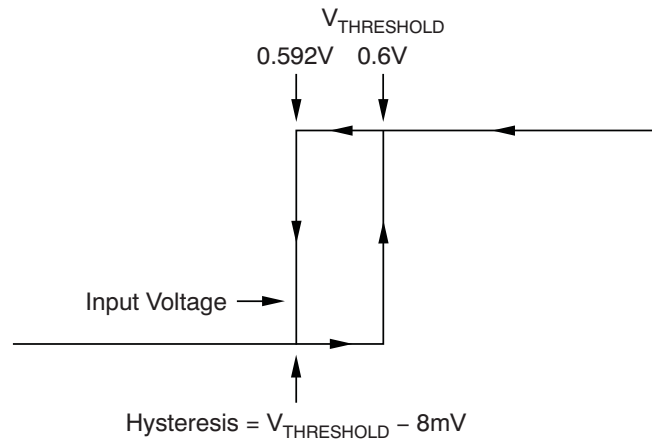

Figure 1. Typical Comparator Hysteresis
- (1) Hysteresis refers to the threshold (the threshold specification applies to a rising edge of a noninverting input) of a falling edge on the noninverting input of the comparator; refer to Figure 1.
- (2) Specified by design.
- (3) V_{ID} refers to the differential voltage at the comparator inputs.
- (4) Open-drain output can be pulled to the range of 2.7 to 18 V, regardless of V_S .
- (5) The comparator response time specified is the interval between the input step function and the instant when the output crosses 1.4 V.
- (6) The $\overline{\text{RESET}}$ input has an internal 2 M Ω (typical) pull-down. Leaving $\overline{\text{RESET}}$ open results in a LOW state, with transparent comparator operation.